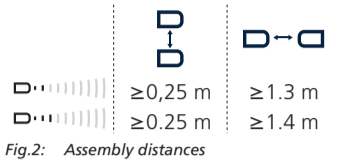

Fig. 2: Assembly distances
- The assembly distances shown in fig. 2 for two or more sensors should not be fallen below in order to avoid mutual interference.